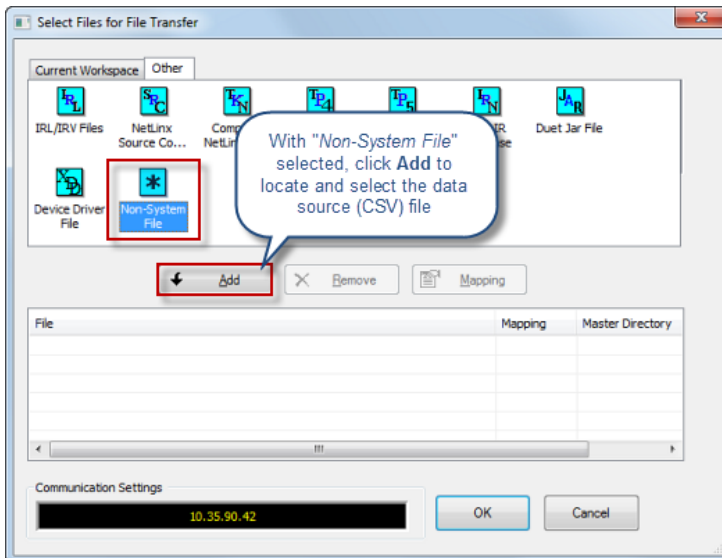

FIG. 122 NetLinx Studio 4 - Select Files for File Transfer dialog
3. Click **Add** to open the *Select Files for File Transfer* dialog, and open the *Other* tab (FIG. 122):